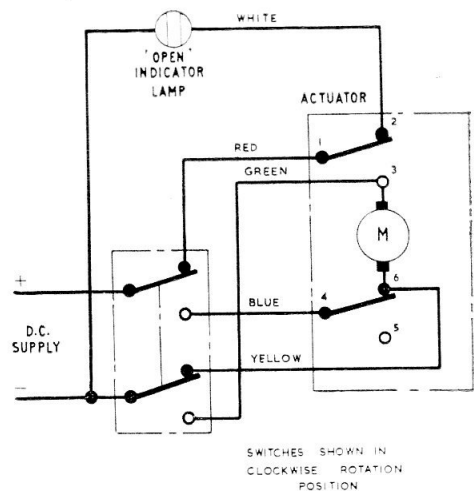

Fig. 1. Circuit diagram
1. The C5041 rotary actuator is similar to others in the C5000 series; provision is made for an external indicating lamp connection for clockwise rotation only (fig. 1).